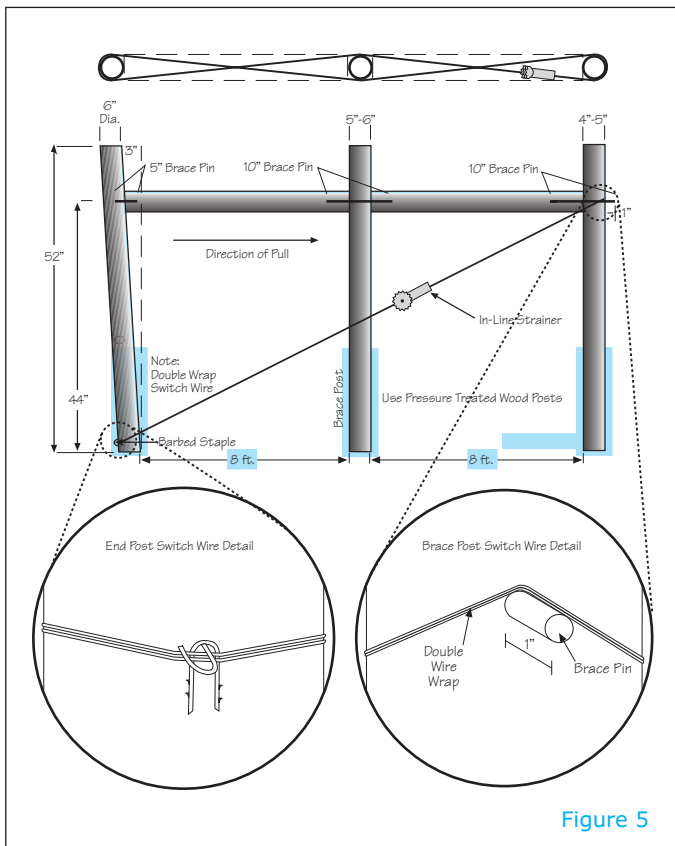

Figure 5
## How to Build a Double "H" Brace (Figure 5)
4. Insert a five inch brace pin into the hole that was previously drilled into the corner/end post. You should have 2 to 3 inches of the pin left sticking out of the post. Install one side of the first cross member by sliding the hole in the end over the pin that was left protruding from the corner/end post. Next, slide the first cross member into place. Use a hammer to drive a 10 inch brace pin through the hole in the middle brace post, and into the hole in the cross member. Make sure to leave at least three inches of the brace pin sticking out of the middle brace post. Use this protruding brace pin to install the second cross member. Hammer the second 10 inch brace pin through the inner brace post, and into the second cross member. Remember to leave one inch of the brace pin protruding from the inner brace post. (Figure 5)
5. Drive a barbed staple at a downward angle approximately four inches from the ground in the corner/end post. Hang another staple on one leg of this staple to prevent the wire from digging into the post. (Figure 5)
6. Wrap the brace wire two times in a double figure 8 pattern around all three posts. (Figure 5)